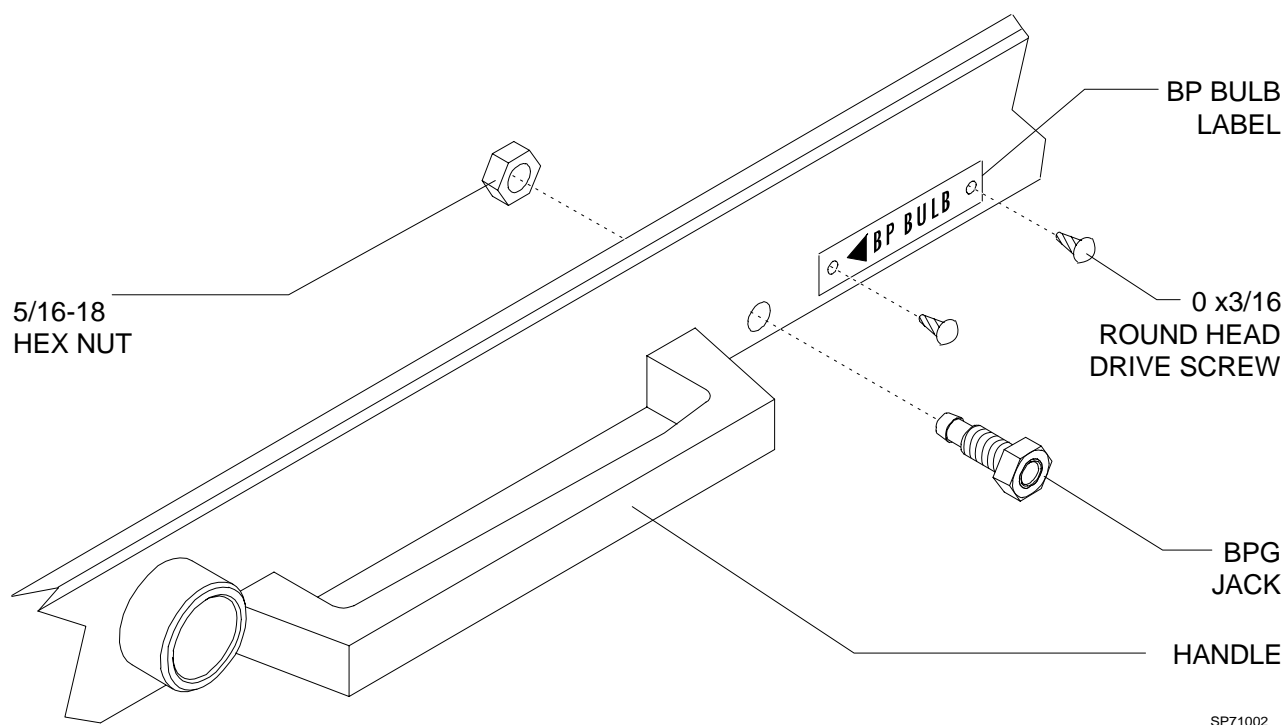

Figure 3: BPG JACK AND "BP BULB" LABEL INSTALLATION
17. Cut a 62 in. length of black hose, and secure one end of the hose to the BPG jack with a hose clamp (see Figure 3).
20. Guide the hose up through the flowmeter housing to the back of the sphygmomanometer interface panel (Figure 3). Attach a tee fitting to the end of the hose, and secure the connection with a hose clamp (Figure 4).